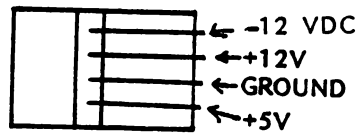

FIGURE 1.10.8 SPS-1 PINOUT DIAGRAM
1. Connect one of the drive power cables (one end of which is already attached to the power supply) to the bottom drive. The drive power connector is a four position, white connector that plugs into a mating connector on the bottom of the drive PC board. See FIGURE 1.10.8 for the pin out on this connector.